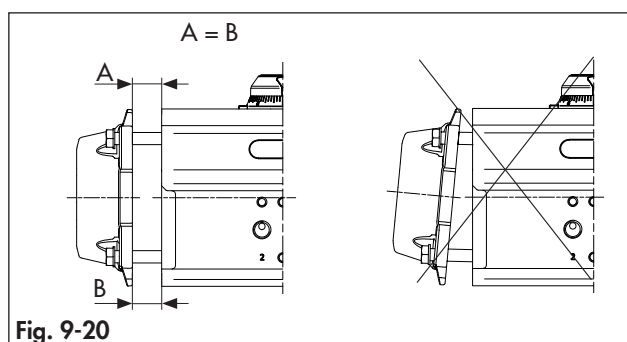

Fig. 9-20
- ➔ Assemble the end caps as shown in Fig. 9-20 keeping a constant distance ($A = B$) between the actuator body and the end cap interface.